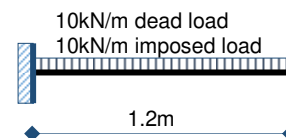

Fig. 2
3. A cantilever beam of effective length 1.2m is built into a concrete wall as shown in figure 2. It supports characteristic dead and imposed loads of 10kN/m and 10kN/m respectively. Select a suitable universal beam section in grade S275 steel to satisfy bending, shear, shear buckling and deflection $E=205\text{kN/mm}^2$ (20 marks)